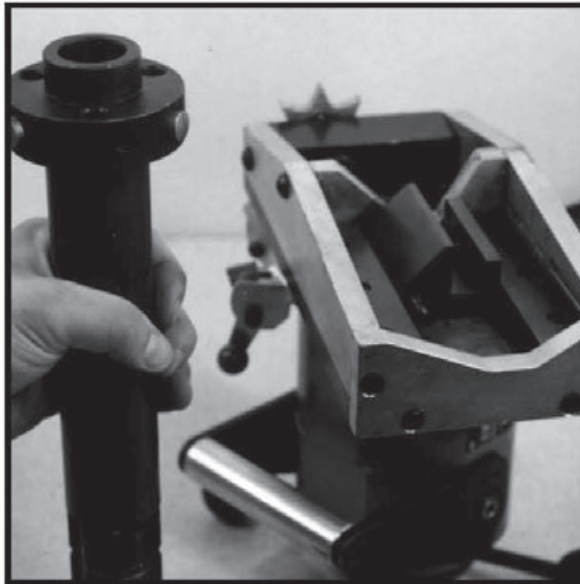

Figure 3-9.
5. Install the Flange Facing Mandrel into the flange I.D. using the alignment fixture to insure proper squareness to flange. Once the mandrel has been properly aligned, mount the machine body to the mandrel (Figure 3-9).